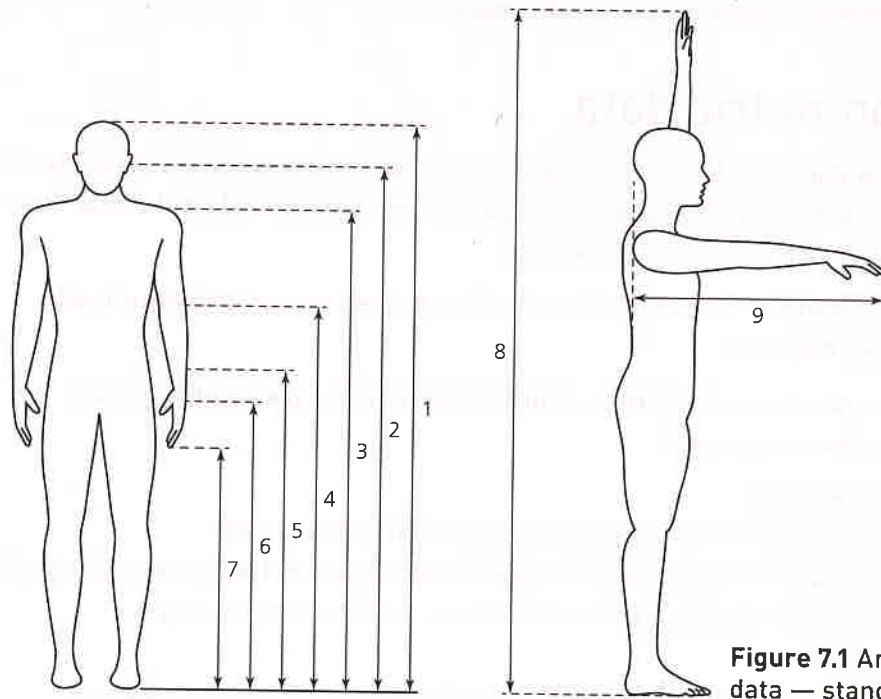

Figure 7.1 Anthropometric data — standing
Figure 7.1 shows an extract of the anthropometric data relating to a standing human. Notice how the data are grouped:
- a Use the anthropometric data in Figure 7.1 to determine the range over which the seat height needs to be adjustable for 90% of women users.